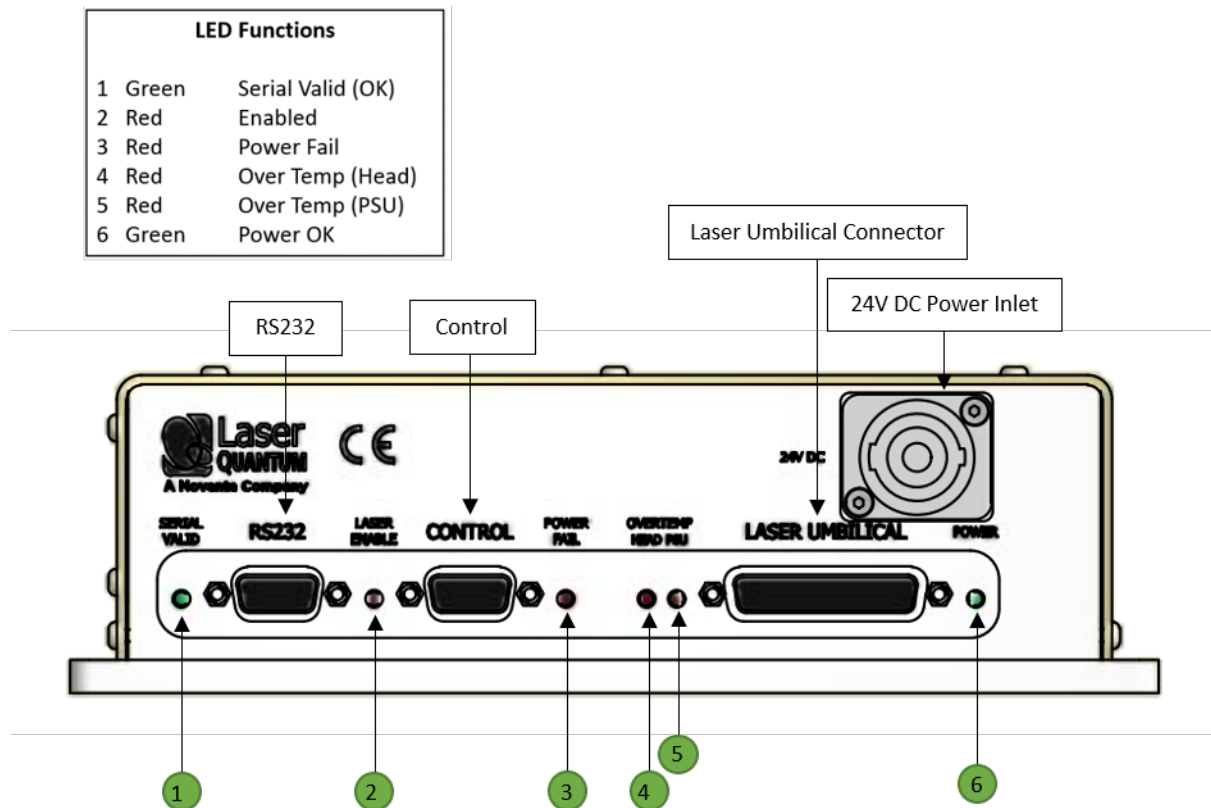

Figure 4-1
- 4 The analogue Control port (see Figure 4.1) is multi-functional as it has connections for Interlock, Enable Switch and Laser Power Control/Modulation. The Interlock must be closed to allow the laser to operate and this can be achieved using the supplied red-spot Interlock Dongle.